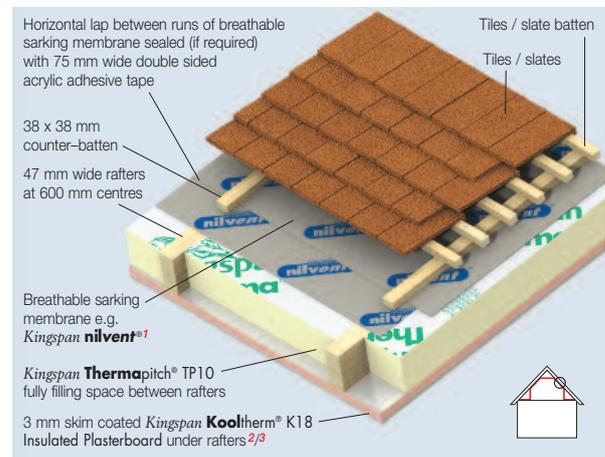

Figure 1a
NB When calculating U-values to BS / I.S. EN ISO 6946: 2007, the type of mechanical fixing used may change the thickness of insulation required. The effect of fixings for Kingspan **Kooltherm**® K18 Insulated Plasterboard in the U-value calculations for Figures 1a, 1b, 1c, 1d, 2a, 2b, 4a & 4c is insignificant as the insulation layer penetrated is not the main insulation layer. The U-value calculations for Figures 3a & 3b assume that over rafter layers of insulation are fixed using stainless steel fixings with a cross sectional area 7.45 mm², with 3.7 fasteners per m² (insulant thickness 0–40 mm), 6.2 per m² (insulant thickness 41–60 mm), 8.3 per m² (insulant thickness 61–80 mm) and 10.0 per m² (insulant thickness > 80 mm). Please contact the Kingspan Insulation Technical Service Department (see rear cover) for project calculations.
- In Figures 1a & 3a the breathable sarking membrane can be placed over the counter-battens, draped to provide for drainage and overlain with tile / slate battens. This will yield a marginally better U-value but it will be more difficult to seal the breathable sarking membrane effectively.